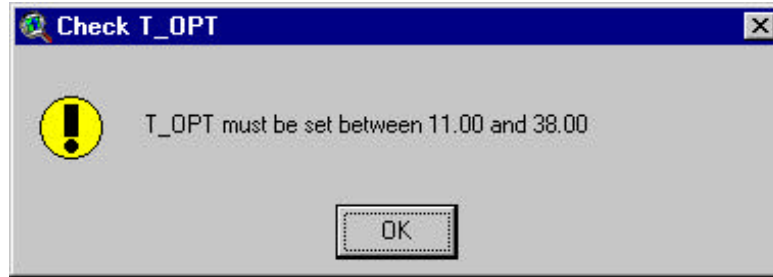

Figure 14.30
- c. Edit data: Activate a cursor by clicking in the text box. Type the desired value. You can move to the next parameter by pressing the **Tab** key. If the value of the parameter is out of range, a message box like the one in Figure 14.30 will be displayed.